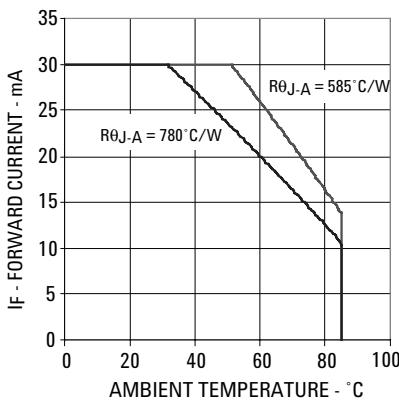

Figure 2. Forward Current vs. Ambient Temperature
- Derate linearly as shown in figure 2.